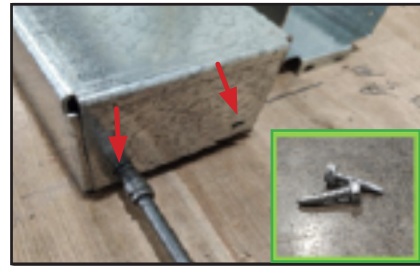

Fig. 37 Fasten rear of hat-section
4. Fasten the rear of each hat-section with 8-size Tek screws (2 nos.) provided (Fig. 37).